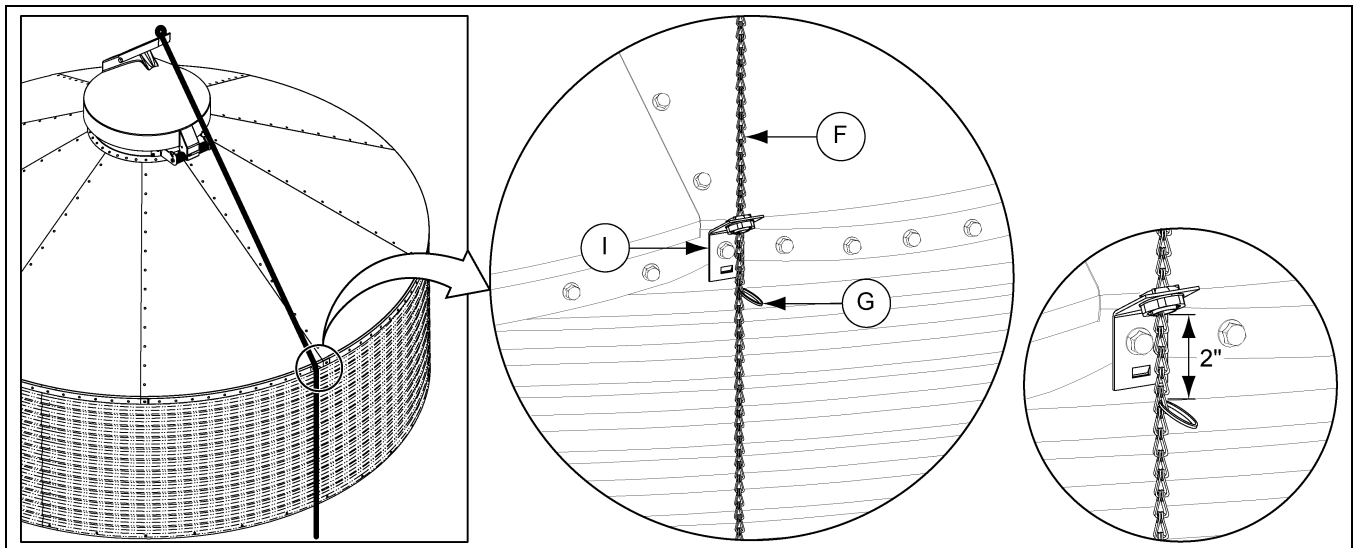

Figure 10H Routing the Chain Through the Eave Bracket
12. Route the chain (F) through the roof eave bracket (I) and the chain holder bracket (J).
13. Remove slack in the chain (F) and position a key ring (G) 2" below the roof eave bracket (I). (See Figure 10H.)